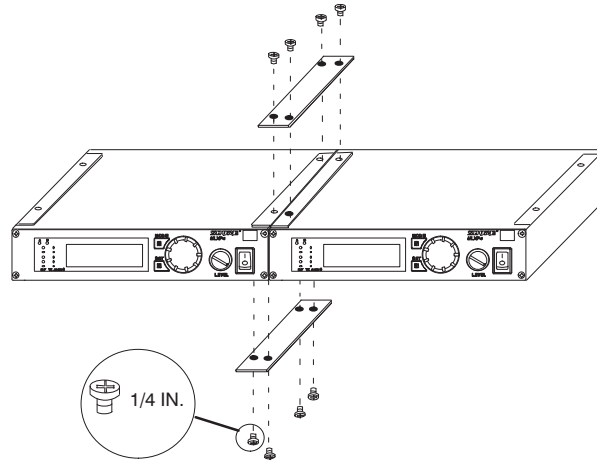

FIGURE 51
2. Place the supplied straddle bars in the recesses on the top and bottom of the receivers, so that the bars overlap both receivers. Refer to Figure 51.